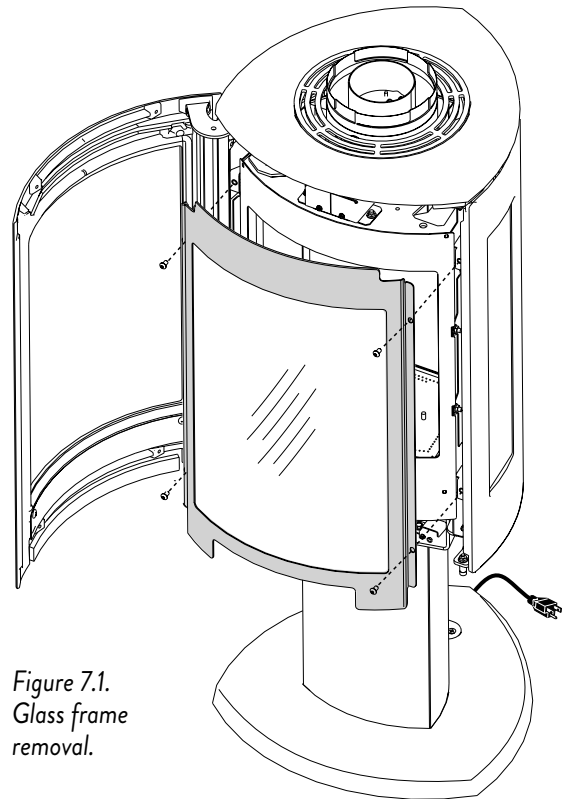

Figure 7.1.
To access the firebox, use the 4 mm hex key to remove the four socket head screws that attach the glass frame to the firebox. See fig. 7.1.
2. Remove the glass frame. See fig. 7.1.